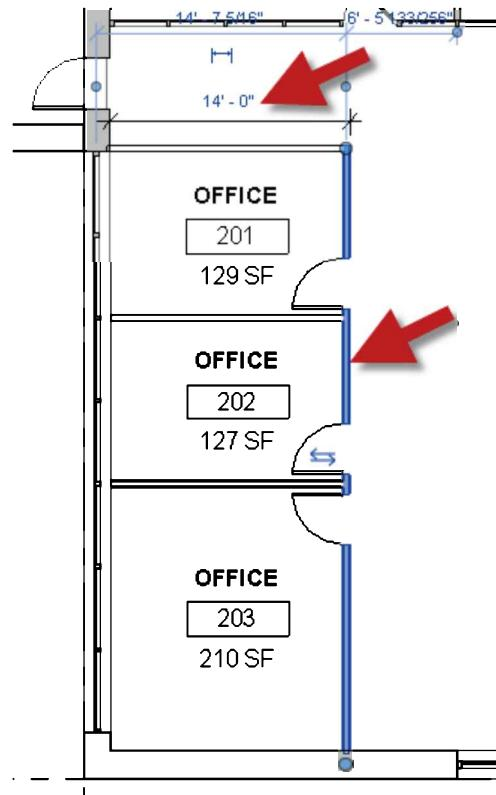

FIGURE 16-4.11 Wall adjusted by user B
19. Adjust the wall shown in Figure 16-4.11 from 18' - 0" to 14' - 0".